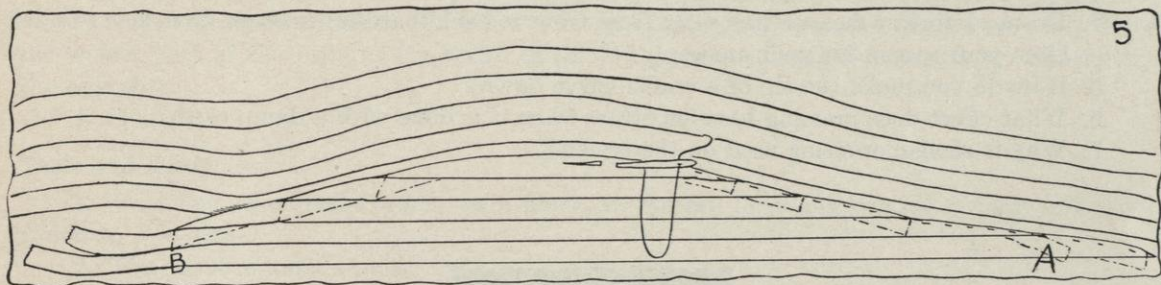

FIG. 5.
e. Slip each cut end of each row of braid *under* the one just ahead of it, so that the extra row curves in a very gradual line (see points A to B of Figure 5). Be sure to graduate the straw very carefully where you begin to set in the pieces and where you finish (see Figure 5).